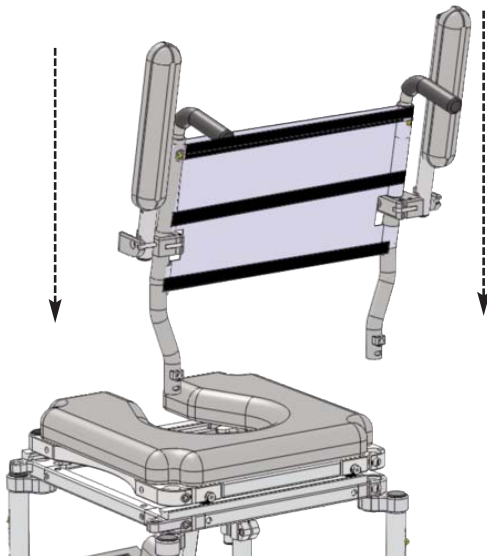

Figure 4
- 2) Slide the two backposts into the back of the seat frame and tighten the two socket head cap screws using the 1/4" Allen wrench (Refer to Figure 4).
- 3) Attach the cloth back by wrapping it around the backrest posts, and pressing it against the velcro. Back angle adjustments are possible by changing the length of the straps (Refer to Figure 4).